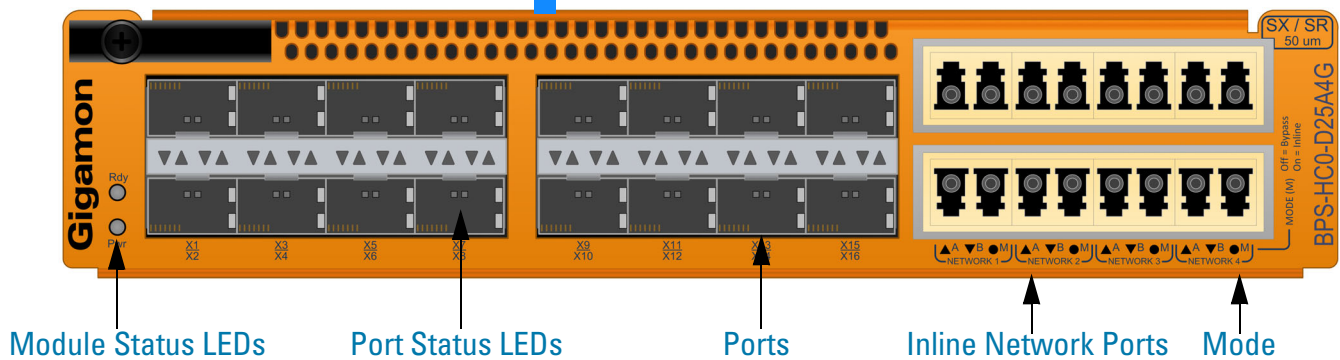

Figure 1-13: Bypass Combo Module BPS-HC0-D25A4G
- Bypass Combo Module with four SX/SR (50/125µm multimode) inline network port pairs and sixteen regular SFP+ port cages (BPS-HC0-D25A4G) (Figure 1-13 on page 28)